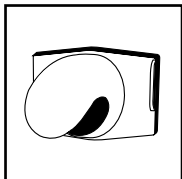

FIGURE 29
41. Remove deflector from retainer guide. **FIGURE 29.**